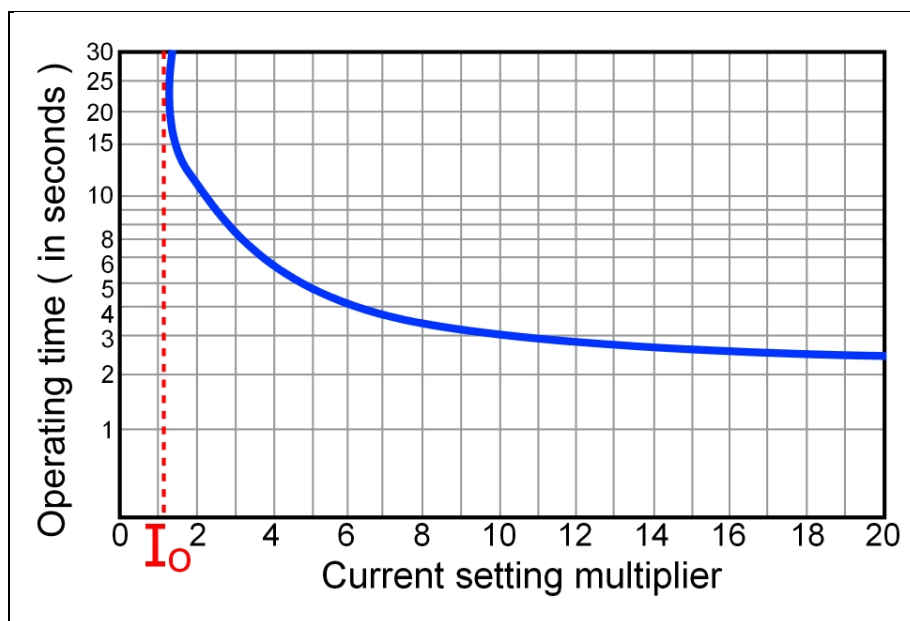

Fig. 1.2-9 Operating Characteristics of Time Overcurrent Relay
**NOMINAL CURRENT ( $I_0$ ):** It is the adjustable setting value, which makes no intersection with relay curves, as shown in Fig. 1.2-9.